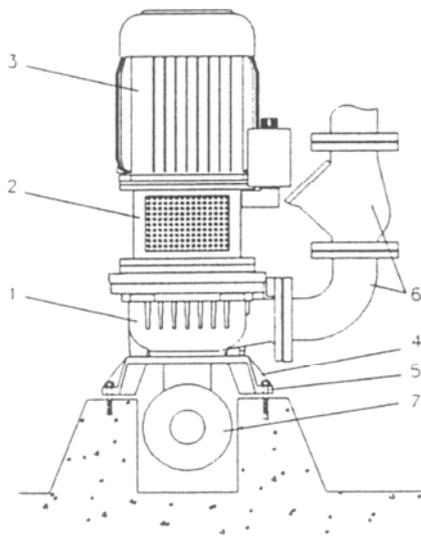

Fig. 7.6
- maximum flange forces and moments, see fig. 7.6